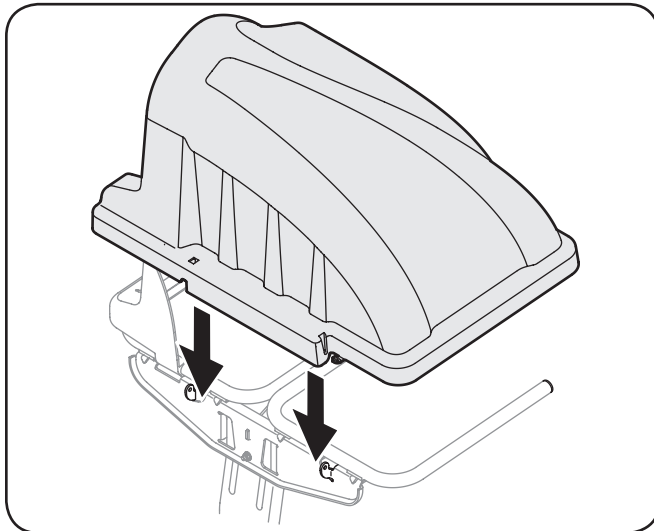

Figure 5-9
- Install the bagger cover onto the bag support assembly, as seen in Figure 5-9. The plastic cover goes inside of the two mounting tabs.